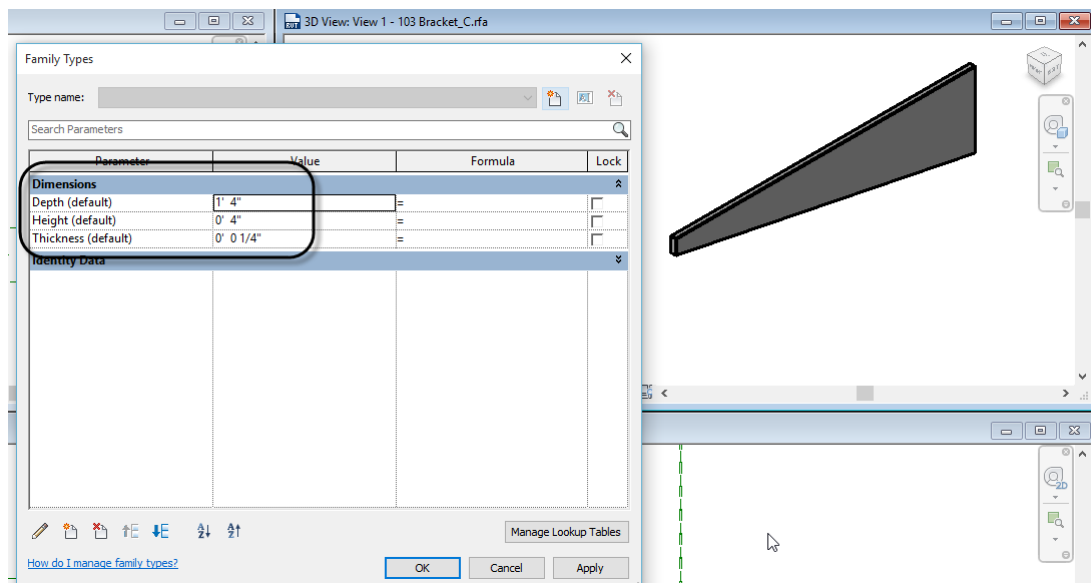

Figure 21
2. Change the Thickness to: $\frac{1}{4}$ ", the Height to: **4"**. Leave the Depth at: **1'-4"** and then click OK (see Figure 21).